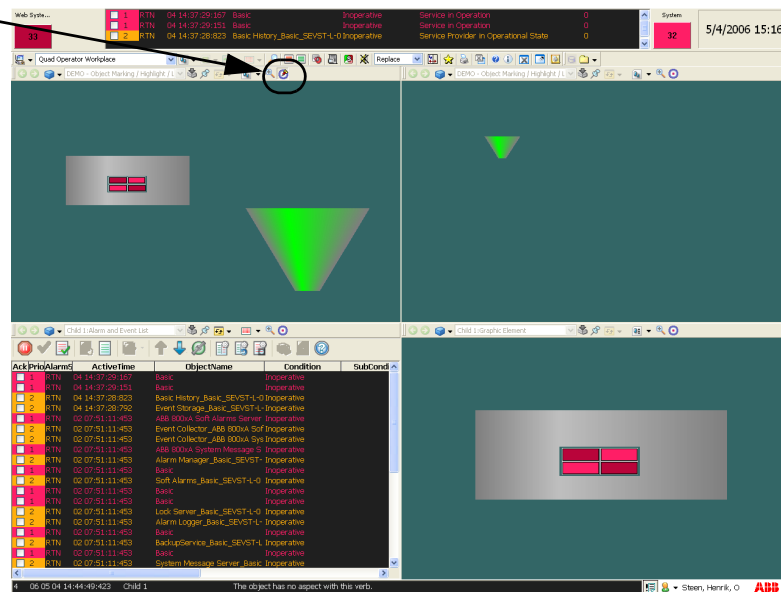

Figure 14. Target Tool
- The **Target Tool** makes the display area main target for navigation. The target tool is most commonly used when having a panel with several display areas included or when using multiple screens. If the target tool is pushed/active (see Figure 14), all aspects that can be displayed in the specified display area will be displayed there.